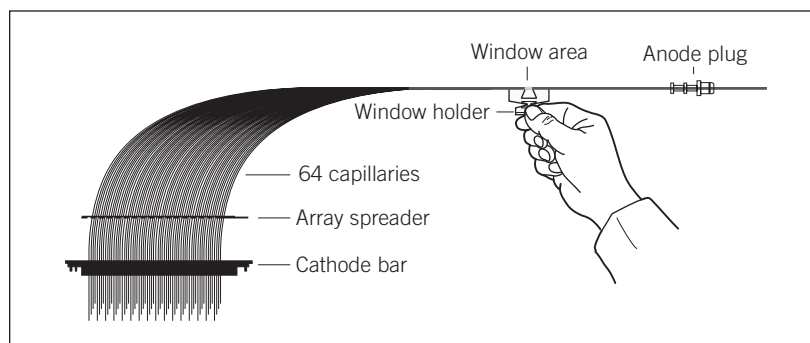

Figure 7-9. Cleaning the capillary windows.
1. Remove a capillary array from the instrument (section 7.5) or from the box by grasping the cathode bar (figure 7-9).
3. Carefully grasp the capillary array by the window holder with one hand (figure 7-9), and with the other hand, use the wet swab to clean the entire window area (front and back).